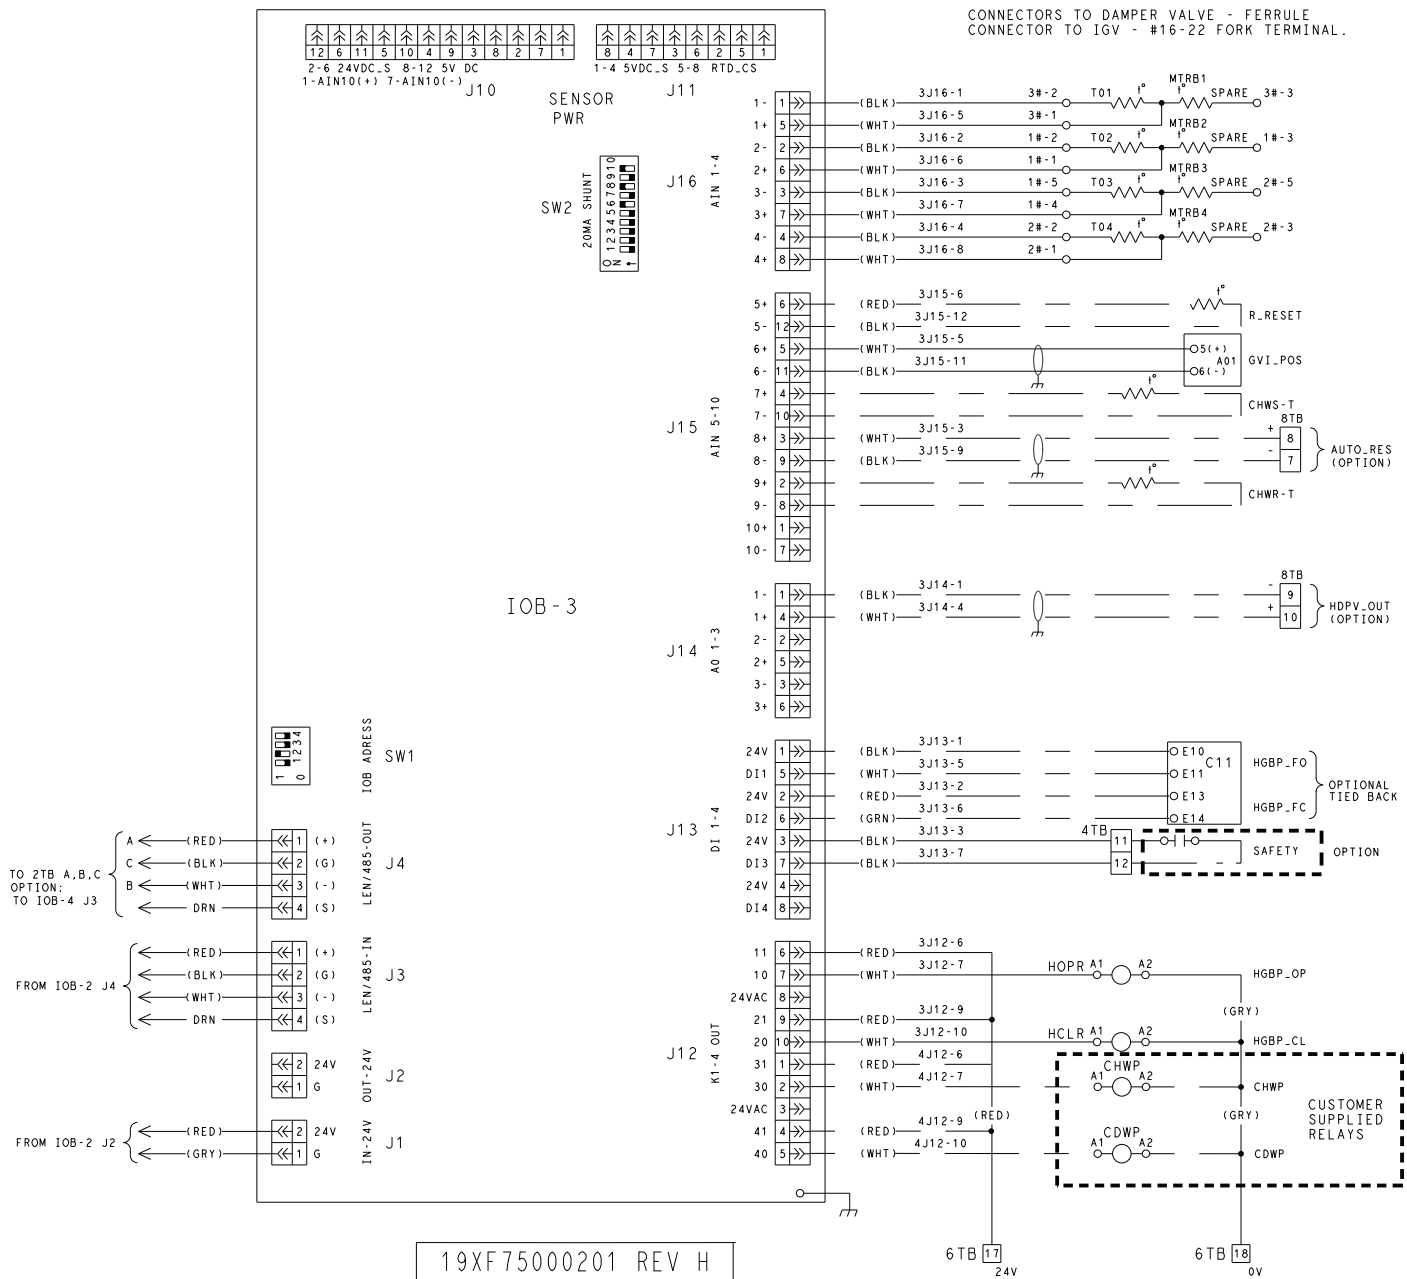

Fig. 14 — 19XR6/7 IOB3
1. See Fig. 14 for IOB3 wiring diagram.
2. For pressure readings, only Vout (output) terminal is indicated. See Fig. 14 for Vin (+) and ground (–).